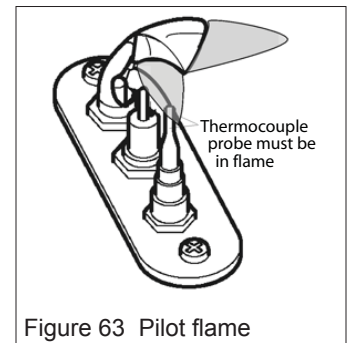

Figure 63 Pilot flame
- A periodic check of the pilot and burner flames should be made. Check after the fire has been on for at least 30 minutes. The pilot flame must cover the tip of the thermocouple probe. The main burner flame pattern will vary from appliance to appliance depending on the type of installation and climatic conditions. See figures 63 and 64.